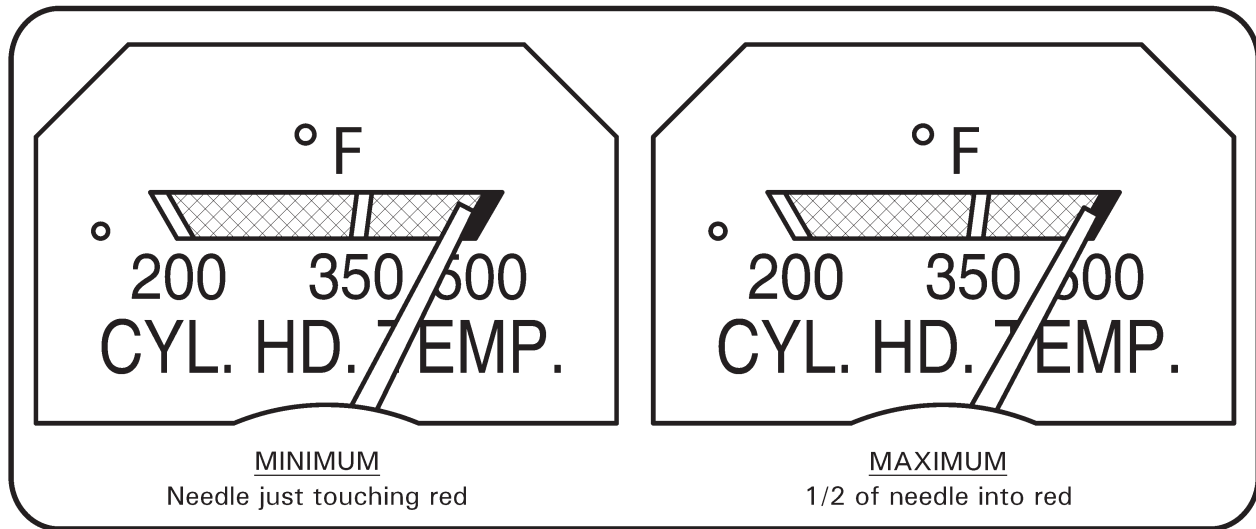

FIGURE 13-3 CYLINDER HEAT TEMPERATURE GAGE CALIBRATION
6. Refer to Figure 13-3. Push in GAGES 2-amp circuit breaker. Turn battery switch on and observe CHT gage. Adjust potentiometer screw on C691-1 circuit board assembly until gage indicates within limits shown with console in closed position (CHT probe resistance is  $32 \pm 0.4$  ohms at  $500^{\circ}$  F).